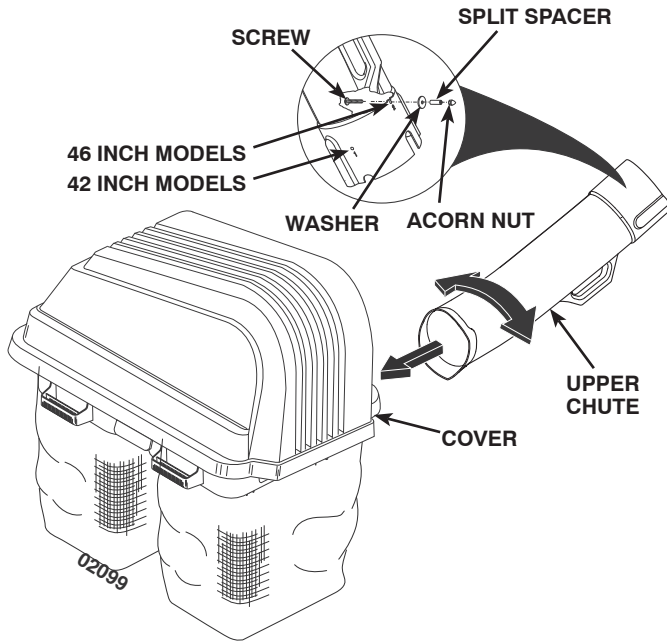

Fig. 5A
5 UPPER CHUTE (See Figs. 5A and 5B)
2. Assemble and install latch pin hardware into "1" position for 42" models or "2" position for 46" models as shown in Fig. 5A.